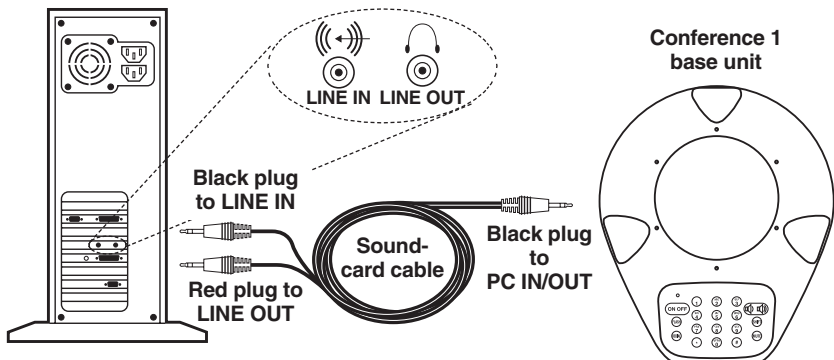

Figure 3-4. Attaching the Conference 1 to a computer's sound card.
You can connect your Conference 1 to a computer's sound card or any other four-wire system that supports full-duplex operation, such as some videoconferencing equipment and dedicated voice networks. You'll do this with a sound-card cable that ships from the factory with the Conference 1. This cable has a single mini stereo plug at one end and two mini stereo plugs at the other end. Take these steps, referring to Figure 3-4 (power-supply connections aren't shown):
2. Plug the cable's dual-connector end (red and black plugs) into the sound card or other device: Plug the red plug into the audio LINE OUT jack, and plug the black plug into the LINE IN jack. These jacks might look like those shown in Figure 3-4, or the symbols might be different; consult the device's manual if you're not sure which jacks you should use.